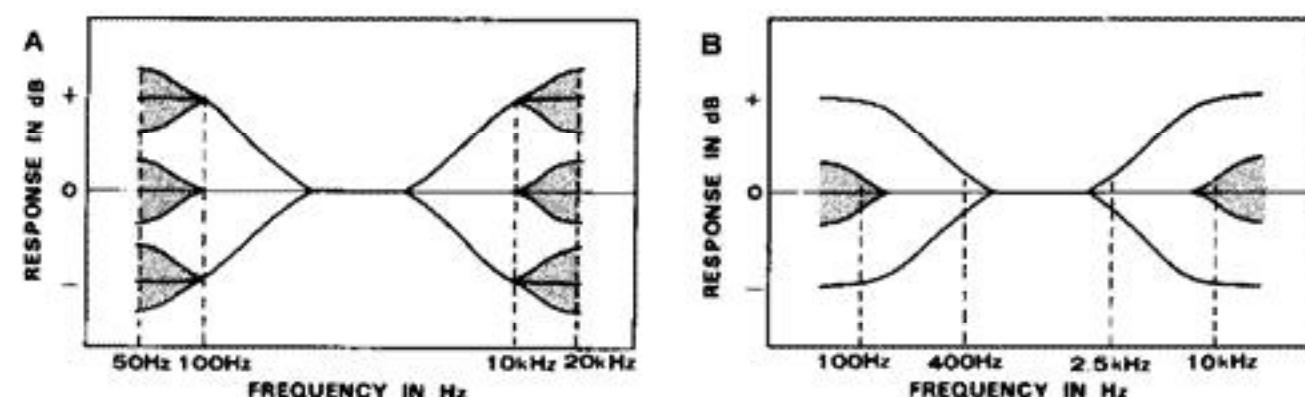

Fig. 6
Similarly, the larger TREBLE control knob adjusts treble response at 10kHz by ± 10 dB. The signal can be further adjusted at 20kHz by ± 6 dB. Fig. 6(A) shows the obtainable frequency response curves when both controls are used together. If the larger knobs are left at "0" and only the smaller knobs used, these function as tone controls with turnover frequencies at 100Hz and 10kHz, respectively. Conversely, if both small controls are left at "0" and only the large knobs used, these act as tone controls with turnover frequencies at 400Hz and 2.5kHz. Fig. 6(B) illustrates these uses.